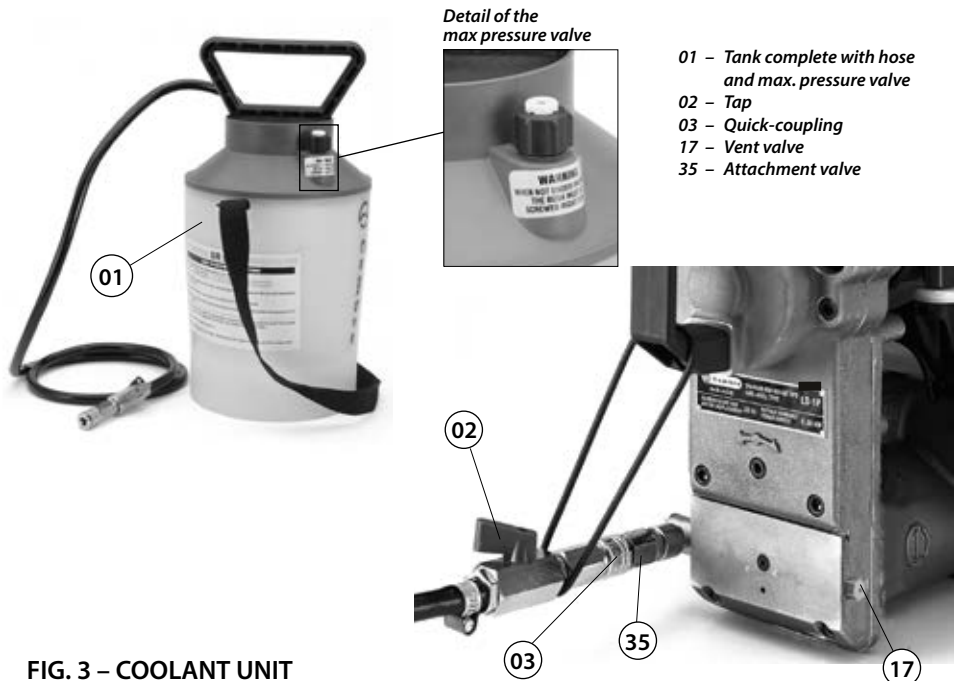

FIG. 3 – COOLANT UNIT
- The drill is equipped with a coolant attachment valve (35) and a vent valve (17) which are located as shown (Fig. 3).